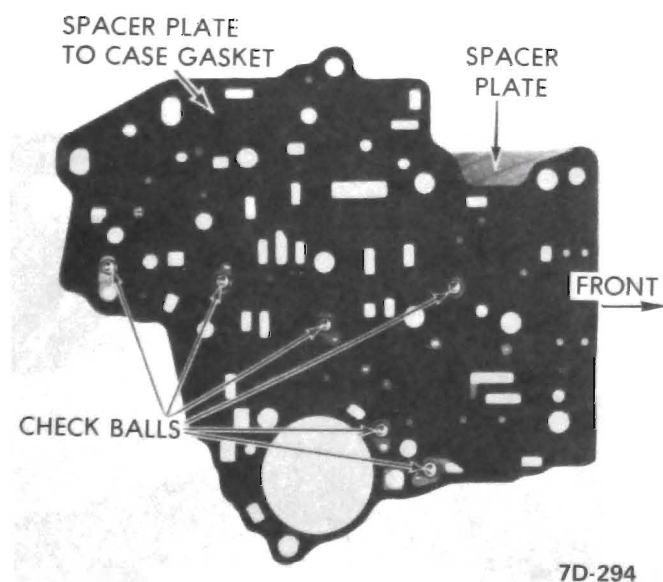

Figure 7D-218
7. Install front servo spring and spring retainer into transmission case. See Figure 7D-220.